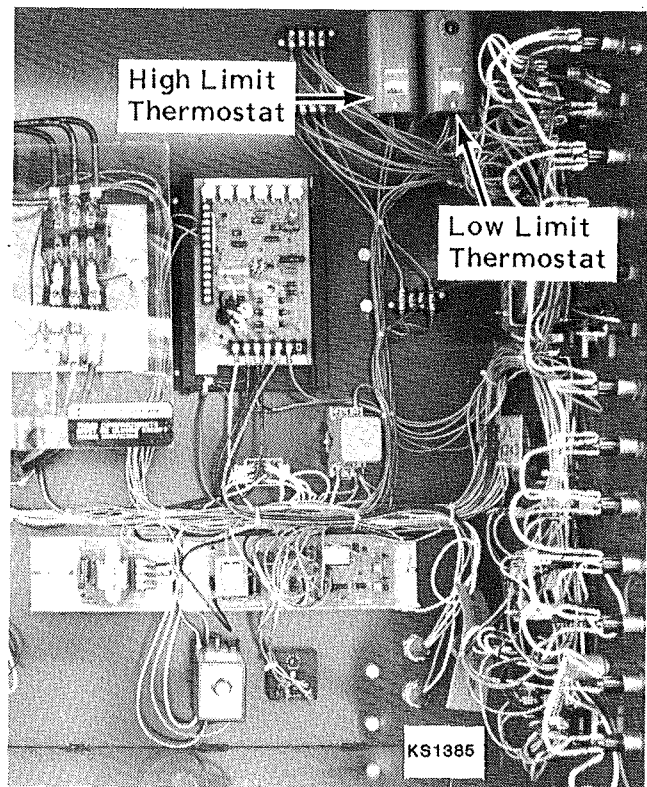

Figure 7 - High and Low Limit Thermostats
4. Adjust the high limit thermostat (Figure 7) (located in the upper right corner of the control cabinet) 30-50° above the desired drying temperature or just enough to avoid nuisance shutdowns. (See Recommended Drying Temperatures, page 15.)
5. Adjust the low limit thermostat (Figure 7) (located in the upper right corner of the control cabinet) 20° above the low limit temperature or just enough to avoid